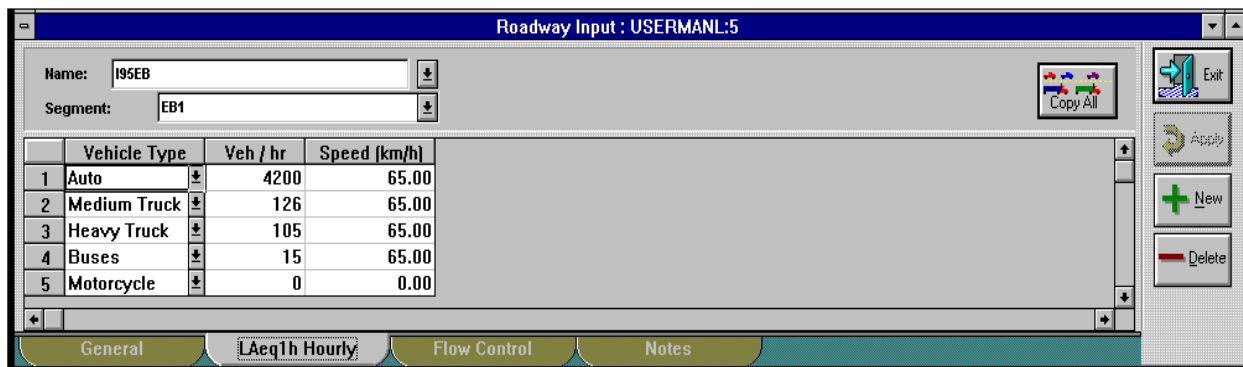

Figure 21. Roadway input: Traffic tab (L_{Aeq1h} Hourly).
2. Select **L_{Aeq1h} Hourly** on the roadway input dialog (see Figure 21).